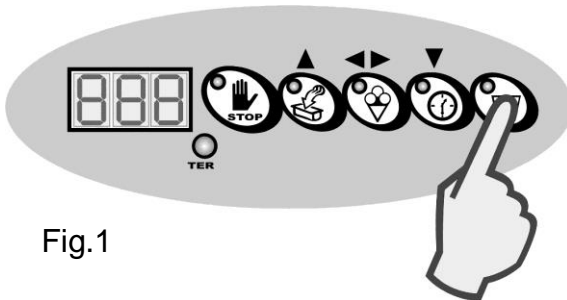

Fig.1
- Press the SLUSH key (fig.1).